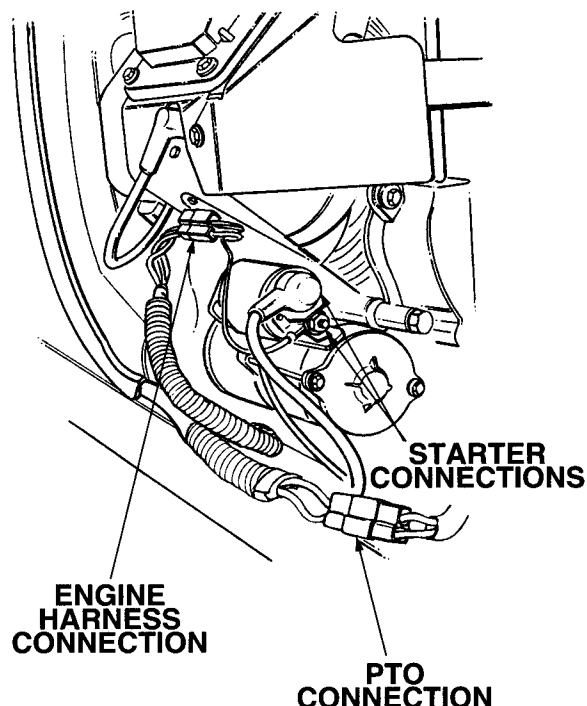

Figure 5-43. Wire Harness Connections (Model 2185 Shown).
5. Disconnect all wire harness and battery connections (Fig. 5-43) from the engine per paragraph 5-4.2 or 5-5.2.